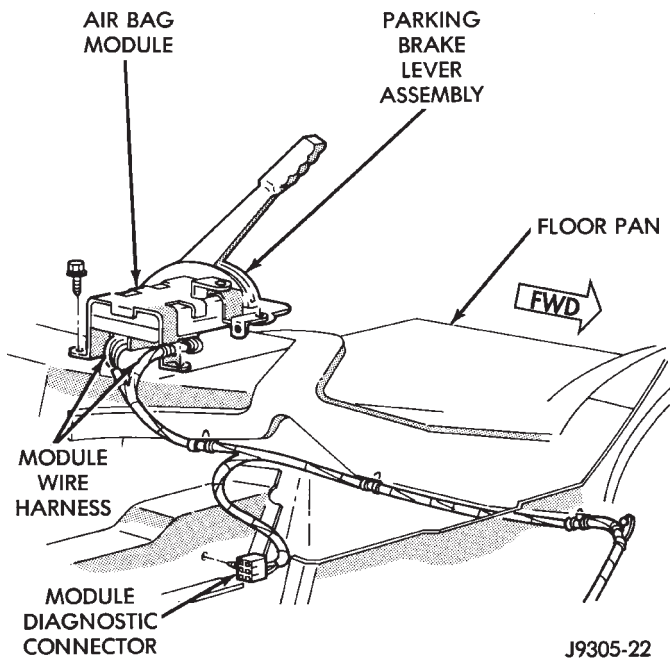

Fig. 11 Air Bag System Diagnostic Module
- (7) Remove bezel under parking brake handle.
- (8) Move transfer case and transmission shift levers rearward.
(9) Lift console up to remove it. There is a bulb at the rear end of the transfer case bezel.
(10) Disconnect wiring at ASDM (Fig. 11).